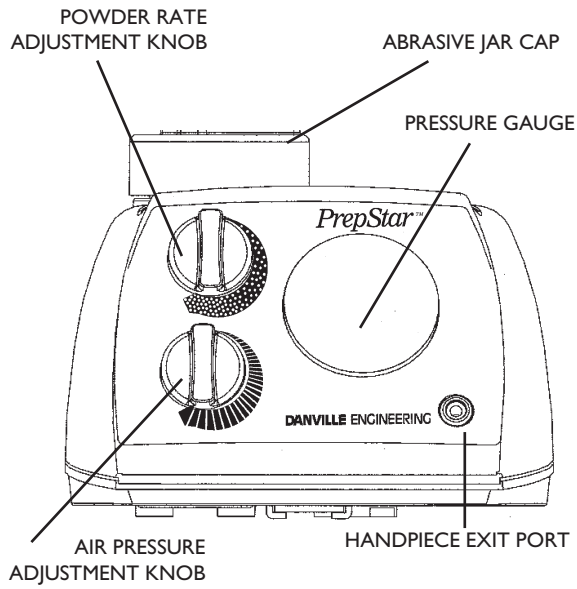

Figure 4.1
The pressure is turned on/off by the toggle switch in the back of the PrepStart. The pressure is adjusted by turning the lower knob (see Fig. 4.1), on the front panel, and can be observed on the gauge. **Cut speeds increase dramatically with pressure.** Increasing pressure from 80 psi to 100 psi will almost double the cutting speed. However lower pressures, of 80 psi or less will greatly reduce sensitivity in dentin. Often, higher pressure is used to rapidly cut through the enamel, then reduced when in contact with dentin. If sensitivity persists, use of a lower pressure is advised.
I.8 ABRASIVE SETTINGS (See Fig. 4.1)
- B. Abrasive jar:** Clean threads and o-rings. Lightly lubricate o-rings with petroleum gel (see Fig. 4.1).